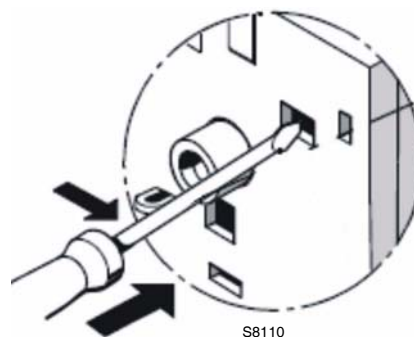

Fig. 25
- **Contact test NC (95-96) and NO (97-98)(Fig. 25)**